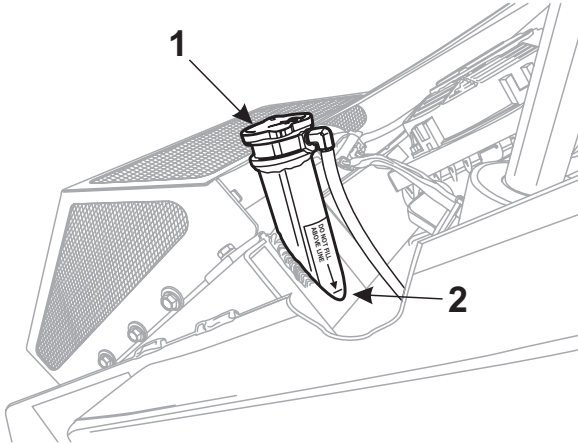

Figure 3-4 Engine Coolant Level Check
- When the radiator is cool to the touch, remove the radiator cap (Item 1, Figure 3-4) and check the radiator fluid level. The proper coolant level will be to the bottom of filler neck. (Item 2, Figure 3-4).